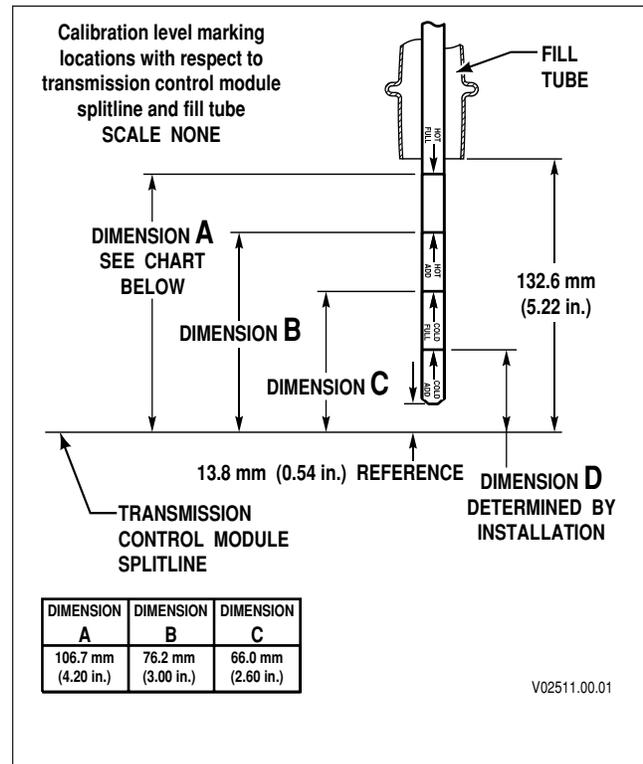

Figure 2-1. Fluid Dipstick Markings
2-7 **Hot Check** (Figure 2-1)
5. If the fluid level is not within the “HOT CHECK” band, add or drain as necessary to bring the fluid level within the band. Safe operating level is within the “HOT CHECK” band on the dipstick (refer to Figure 2-1).